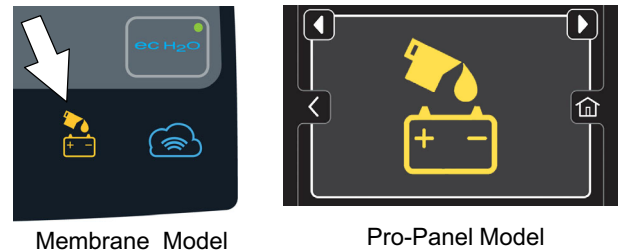

FIG. 30
4. When the tank needs refilling, the automatic battery watering indicator will alert user to add distilled water (Figure 30). See CONTROL PANEL OPERATION for further details.